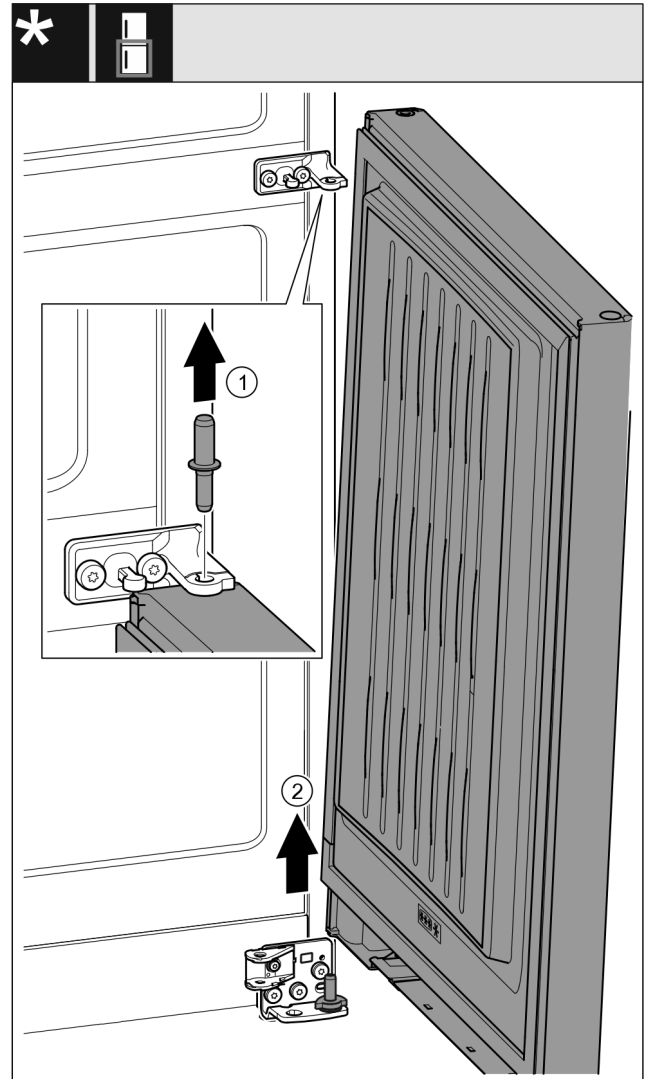

Fig. 25 *
- ▶ Pull out the bolt Fig. 25 (1) upwards.*
- ▶ Swing out the door Fig. 25 (2), pull it upwards and set it aside.*